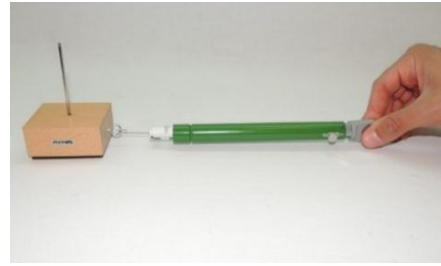

Figure 4.6: Pulling the frictional block and measuring the frictional force.
- 3- Pull the frictional block slowly using the spring balance as shown in Figure 4.6. Just before it starts moving, read the value of the spring balance. This value represents the maximum static frictional force. *Make sure to calibrate the spring balance horizontally before performing this step.* Record this value in the Lab report.
- 8- Repeat steps from 1 to 7 but in this case pull the frictional block slowly by using the spring balance to gradually increase the force as shown in Figure 4.6 above. When it starts moving, continue in pulling gently such that the block moves with a uniform velocity and read the pulling force value of the spring. The reading on the spring balance represents the kinetic frictional force. Record this value in the Lab report.
4.5.2 Task (2): The effect of the type of the contact surface of the block on the frictional force.
- 1- Use the same setup that you used in Task (1).
- 2- Place the frictional block (5) on **the bench surface directly** with the rubber surface touching the bench surface and the holding pin facing upwards.
- 3- Repeat the steps 3 to 9 from Task (1). Record the values of the maximum static frictional force and the kinetic frictional force and find the frictional coefficients in this case in your lab report.
- 4- Compare the results obtained in this case with the results in Task (1). Write your comments on the effect of the type of the contact surface on the frictional force and the frictional coefficients.